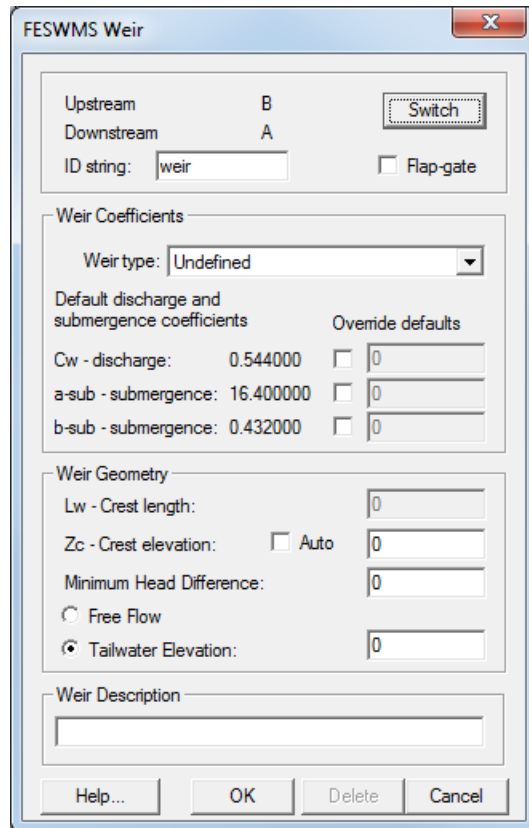

Figure 6 FESWMS Weir dialog
4. Select *FESWMS / Weir...* to bring up the *FESWMS Weir* dialog (Figure 6).